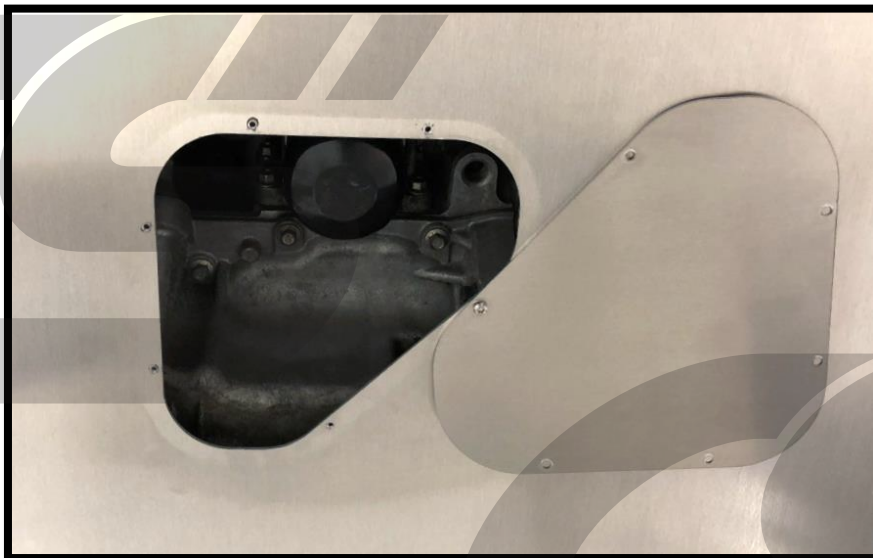

Figure 5b
- e) Rotate the oil filter access cover out of the way. Shown in **Figure 5b**.